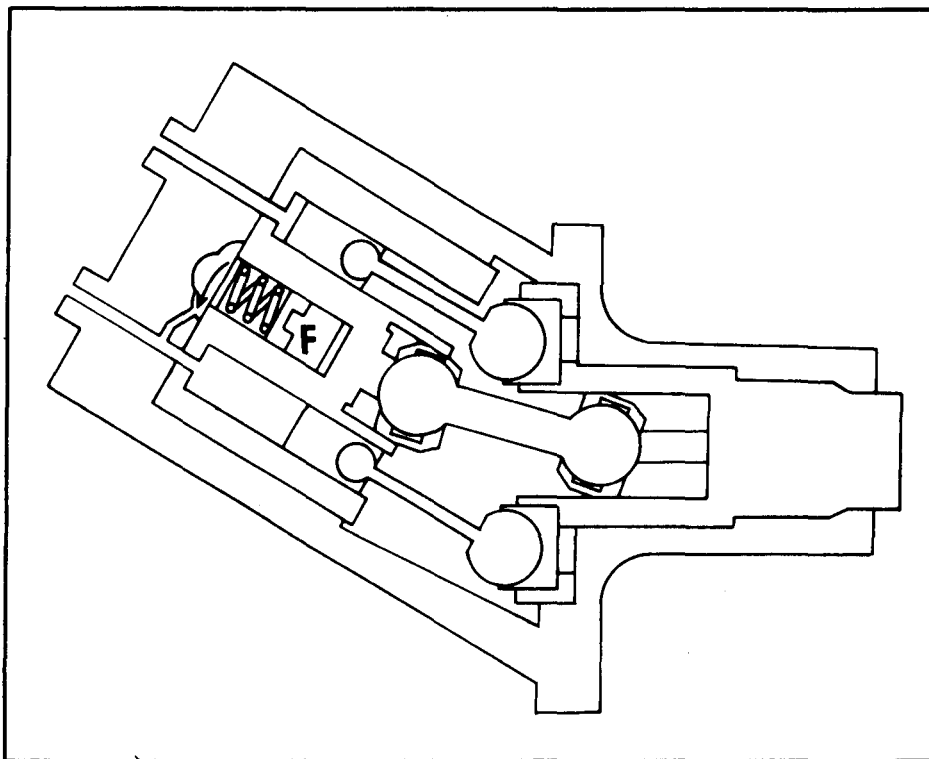

**Figure 6-3. Piston following through one complete revolution.**
Although the pistons appear to move within the cylinders, actually the cylinders move back and forth around the pistons as the block and piston assembly rotate. However, since a piston normally moves within its cylinder, and since this appears to be happening in Figure 6-2, it is helpful to describe the action of this pump as though the pistons were actually moving within their cylinders. To follow a piston through one complete revolution, begin with the piston at the top of its cylinder (position E), having just completed its pressure stroke and beginning its intake stroke. (See Figure 6-3.) As the block starts to rotate from this point, the piston becomes aligned with the intake port (H). When the block has turned one-half of a revolution, the piston reaches the bottom of the cylinder (position J). The cylinder space formerly occupied by the piston is now full of fluid. As the block continues to rotate, the piston becomes aligned with the outlet port (G). Now that the piston has moved through the last 180° of rotation, it has exhausted all fluid from the cylinder and is ready to make another cycle. Since several pistons are operating, and since the cylinder block and piston assembly rotate rapidly, pistons are always somewhere between the upper and lower positions. This ensures a constant intake and output of fluid.